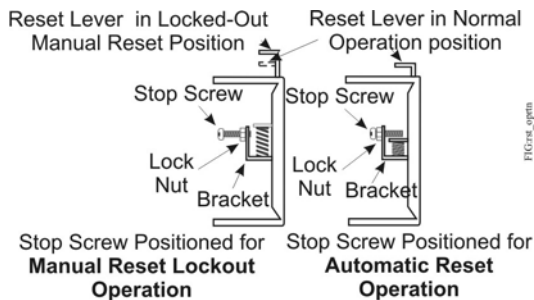

Figure 10: Setting the Convertible High Pressure Reset Mechanism (P70S or P170S Controls)
2. **For Manual Reset Operation:** Loosen the lock nut, and unscrew the stop screw, being careful to not remove the screw completely from the bracket. See Figure 10.
- For Automatic Reset Operation:** Loosen the lock nut, push the reset lever down, and screw in the stop screw fully. See Figure 10.